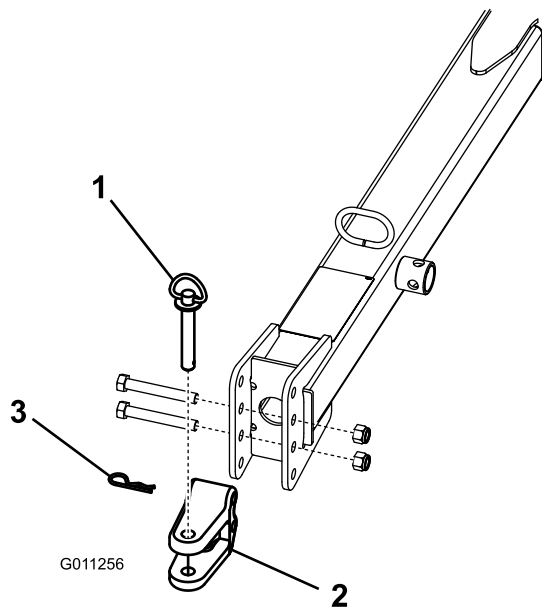

Figure 9
- Remove the bolts and locknuts securing the hitch clevis (Figure 9) to the hitch tongue.